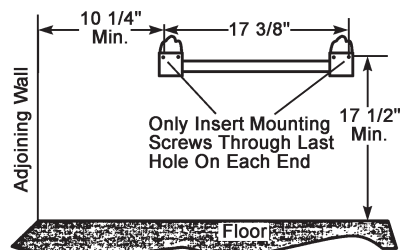

Figure 7 - Mounting Bracket Clearances
2. Mark screw locations on wall. (see Figure 7)